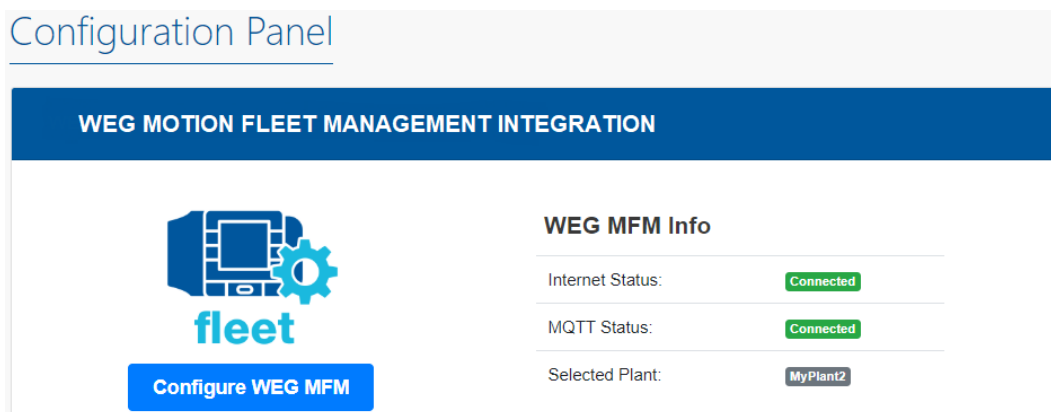

Figure 6.20: Drive Scan linked to the MFM
**Step 17** The Drive Scan is already properly configured on the MFM (Figure 6.20).
Wait for the Drive Scan to restart, and it will be ready to be operated (Figure 6.20).